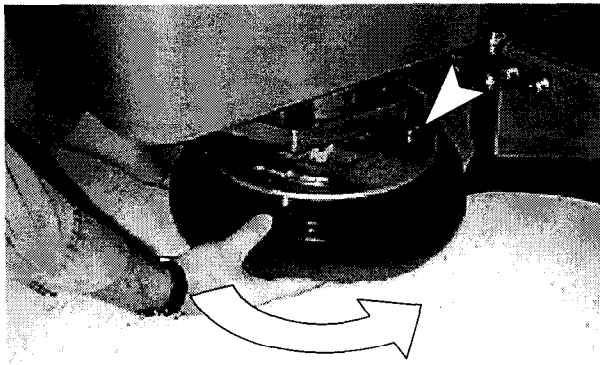

FIG. 9
- Attach brushes or pad drivers to motor hubs. Align (3) mounting studs with slots in motor hub and give the driver a quick turn toward the spring clip located on motor hub. Be certain that spring clip locks into one of the studs before operating machine (*Figure 9*).